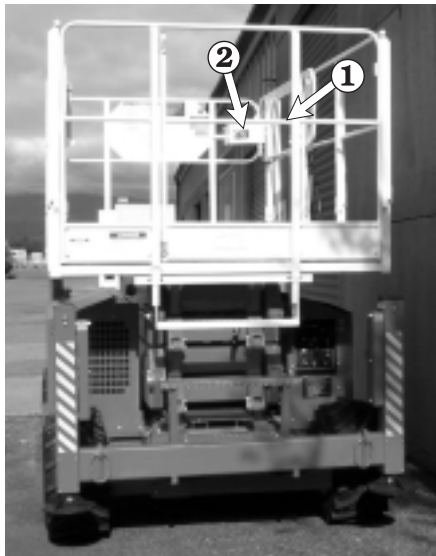

Figure 10.5
3. Enter the platform and close the safety gate **1** (see Figure 10.5).
4. Use the platform controls **2** (see Figure 10.5) to bring the SR into the STOWED POSITION at the foot of the loading ramp with the steering wheels nearest the ramp.